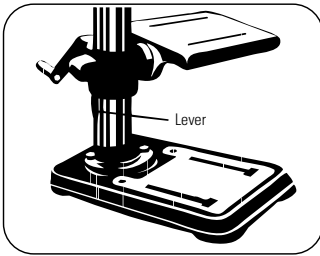

FIGURE 7.11
- Tighten the Table Clamp Lever (Figure 7.11).